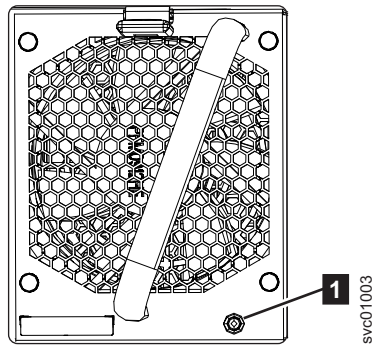

Figure 98. Fan module LED
1. Identify the fan module to be replaced. When lit, the amber LED on the front of the fan module (**1** in Figure 98 on page 117) identifies a fault.